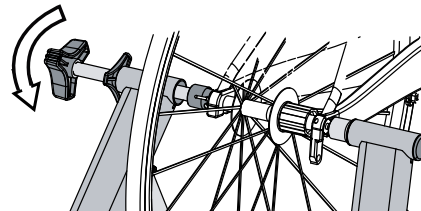

Figure 3
- While holding the bicycle steady rotate the adjustment knob clockwise tightening the clamp cones until they come into contact with the bicycle's QR skewer. Make sure that the QR skewer aligns with the notch in the clamp cones. See figure 3.